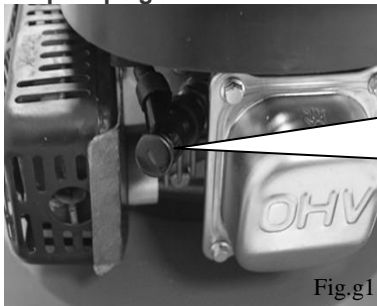

Fig.g1
- 1) Once the engine has cooled, remove the spark plug cap and get spark plug out using the socket spanner supplied (Fig.g1).